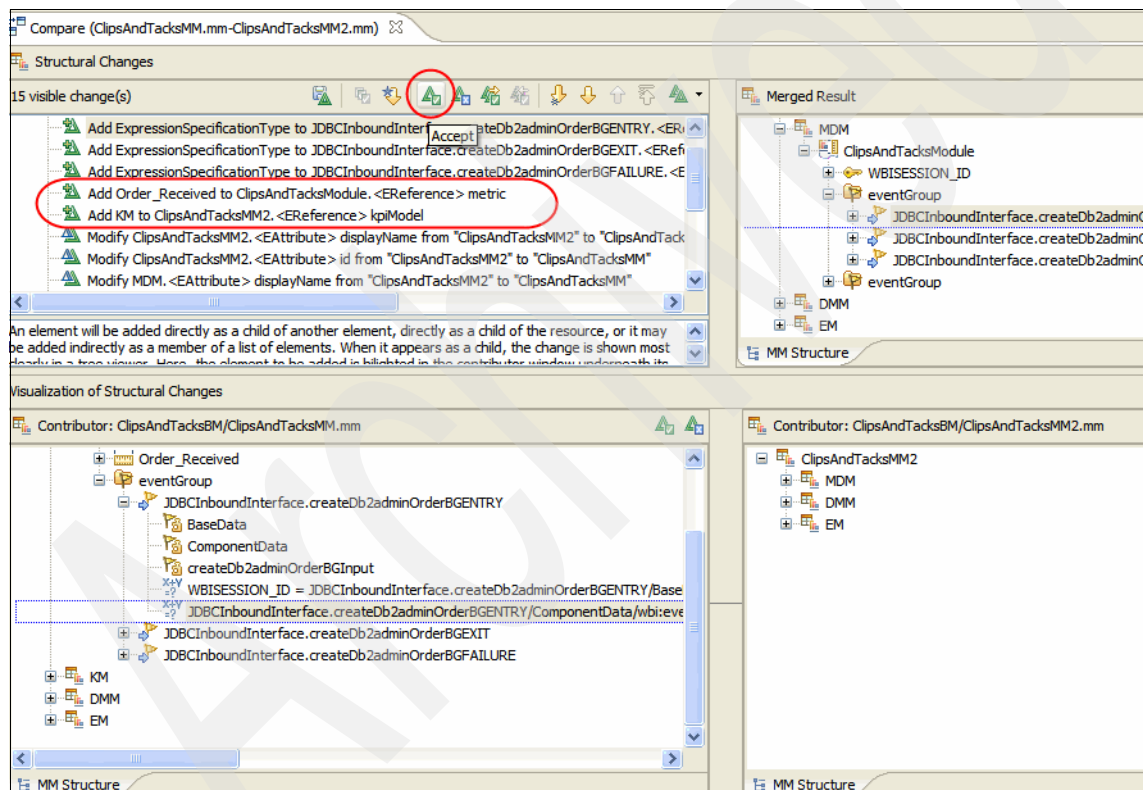

Figure 6-102 Compare monitor model editor
4. The two monitor model files open in a monitor model comparison editor (Figure 6-102), with the changes highlighted. The Structural Changes pane shows the differences between the two monitor models. The changes are described in terms of the actions that must be performed on the new monitor model to make it identical to the original monitor model.